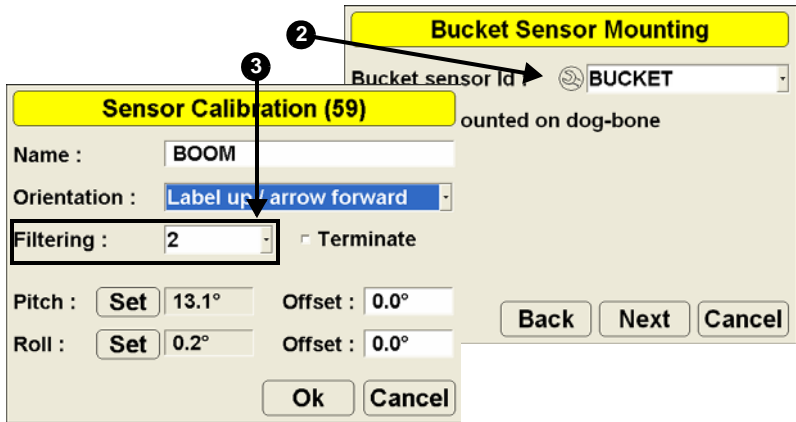

Figure A-27. Set Filtering Level (Bucket Sensor)
2. Tap the Wrench button for the desired sensor GX-60 (Figure A-27).
3. Select a filtering level and press Ok (Figure A-27).